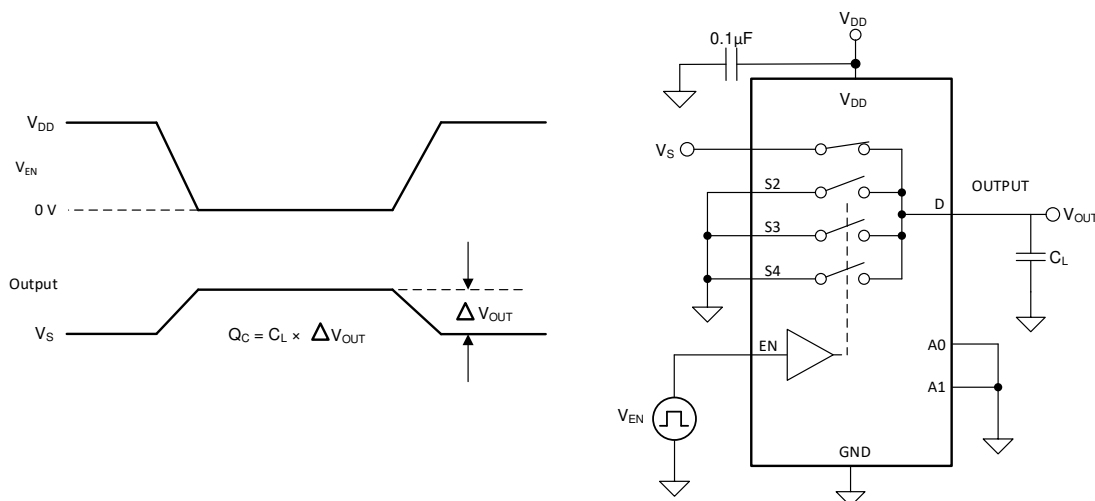

Figure 6-7. Charge-Injection Measurement Setup
The TMUX1104 has a transmission-gate topology. Any mismatch in capacitance between the NMOS and PMOS transistors results in a charge injected into the drain or source during the falling or rising edge of the gate signal. The amount of charge injected into the source or drain of the device is known as charge injection, and is denoted by the symbol Q_C . Figure 6-7 shows the setup used to measure charge injection from source (S_x) to drain (D).